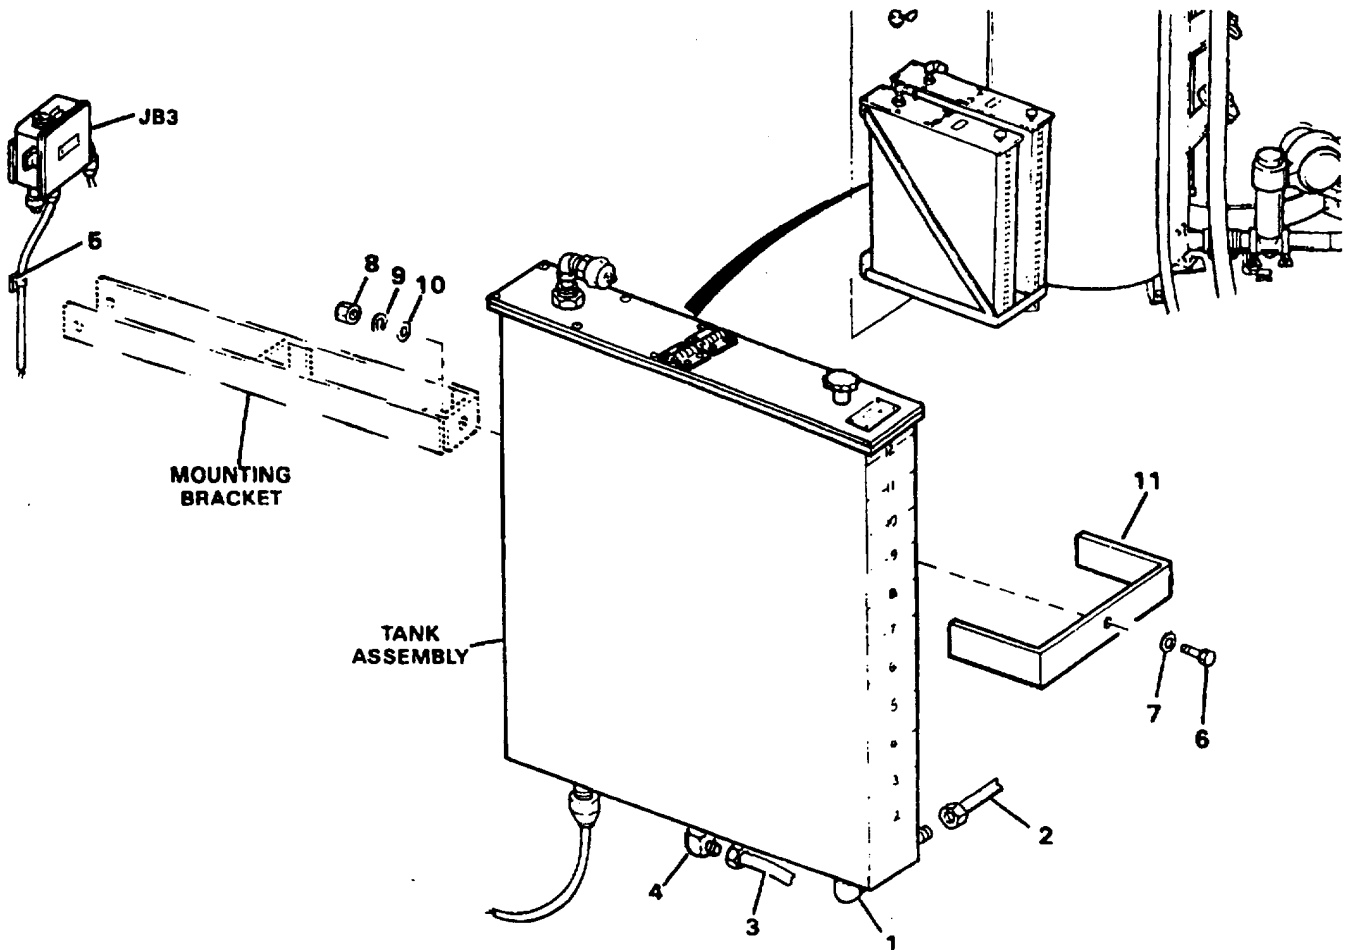

Figure 4-64. Polyelectrolyte and Sequestrant Tank Assemblies (sheet 1 of 2)
- a. Open drain valve (1, Figure 4-64, sheet 1) and drain the tank.
- b. Disconnect tubing (2) at the drain valve (1).
- c. Disconnect tubing (3) from elbow (4).
- e. Cut the plastic cable ties (5) which secure the wires to the wall of the ROWPU.
- f. Remove capscrew (6), washer (7), nut (8), lockwasher (9) and flat washer (10). Remove bracket (11).
- a. Remove eight screws (12, Figure 4-64, sheet 2), nuts (13), washers (14) and two hinges (15). Cover (16) will now be free.
- b. Remove capscrew (17), washer (18) and knob (19).
- c. Remove screws (20), nuts (21) and washers (22). Nameplate (23) will now be free.
- d. Remove six screws (24), washers (25), nuts (26) and washers (27). Cover (28) is now free. Lift cover (28) and disconnect tube nut (39) from fitting (38).
- e. Remove dust cover (29), gasket (30) and quick disconnect (31). Remove elbow (32) and nipple (33).
- f. Remove nut (34) and remove items (35, 36, 37 and 38) as an assembly.
- g. Remove fitting (38) from bushing (37) and sealing ring (35) from adapter (36).
- h. Unscrew tube nut (40) from elbow fitting (53) and remove items (40 thru 46) as an assembly.
- i. Remove tube nuts (40) and ferrules (41) in three places. Tubes (42 and 45) are now free,